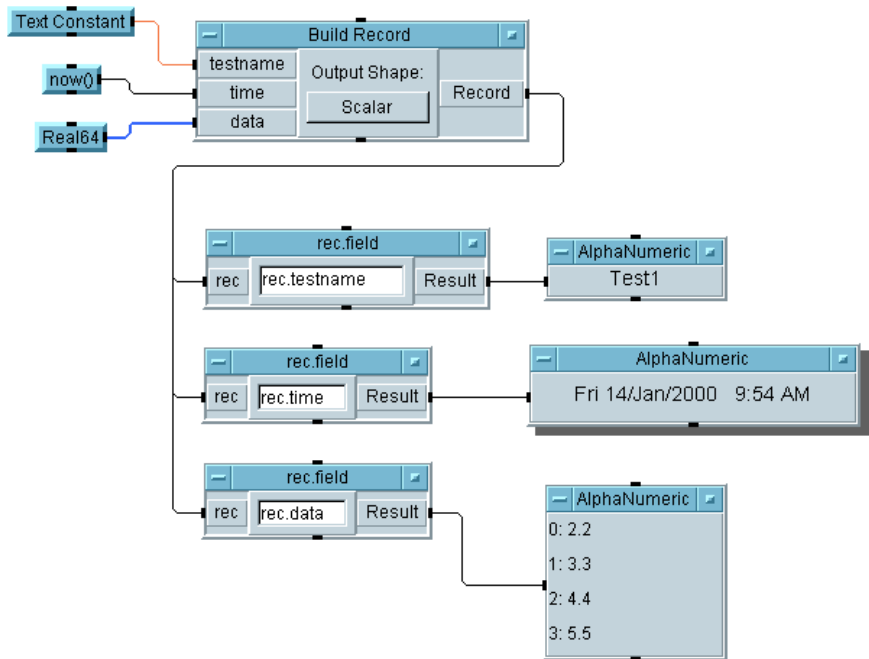

Figure 5-11. Using the Get Field Object
- Run the program and save it as `getField.vee`. The program should look like Figure 5-11.